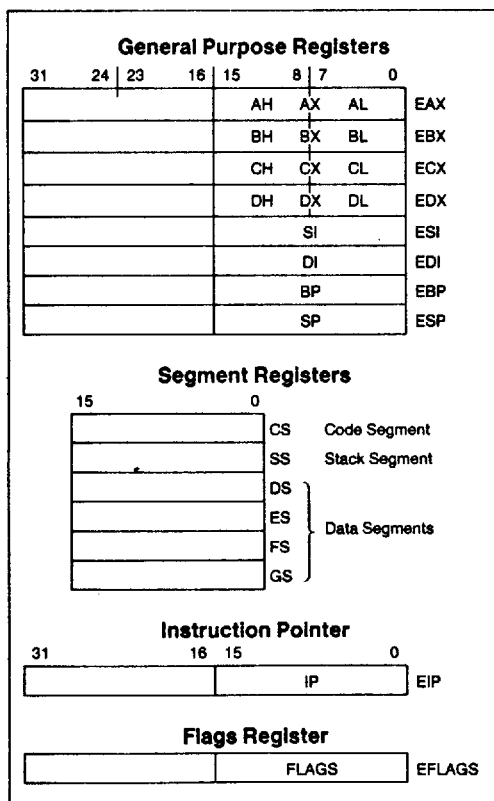

Figure 2.1. Base Architecture Registers
Figure 2.1 shows the Intel486 DX2 microprocessor base architecture registers. The contents of these registers are task-specific and are automatically loaded with a new context upon a task switch operation.
The eight 32-bit general purpose registers are shown in Figure 2.1. These registers hold data or address quantities. The general purpose registers can support data operands of 1, 8, 16 and 32 bits, and bit fields of 1 to 32 bits. Address operands of 16 and 32 bits are supported. The 32-bit registers are named EAX, EBX, ECX, EDX, ESI, EDI, EBP and ESP.
The instruction pointer, shown in Figure 2.1, is a 32-bit register named EIP. EIP holds the offset of the next instruction to be executed. The offset is always relative to the base of the code segment (CS). The lower 16 bits (bits 0-15) of the EIP contain the 16-bit